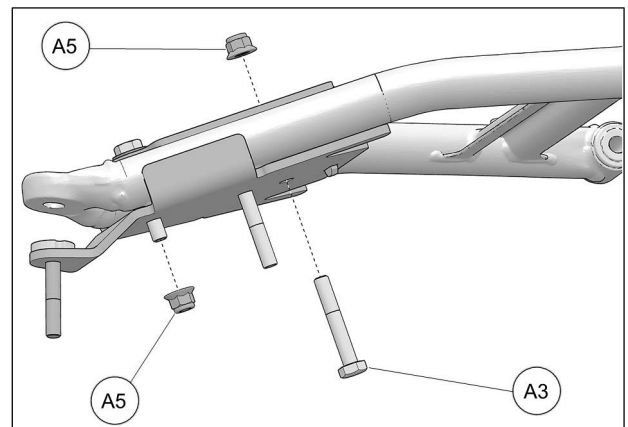

Fig. 29
12. Insert M10x65mm bolt (A3) through the bottom and secure the two parts together with nuts (A5) provided. Tighten nuts (A5) to 50 Nm [37 lb•ft] of torque. Refer to Fig. 29